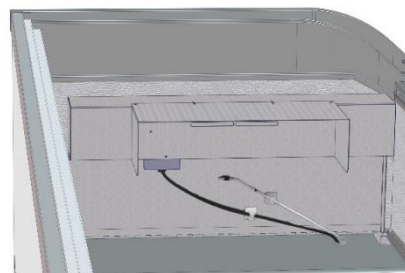

Fig. 15 Blower fan carrier
7. Where required, clean the blower fan carrier (see Fig. 15), for this purpose, fold up and clean the surface underneath carefully with a damp cloth.